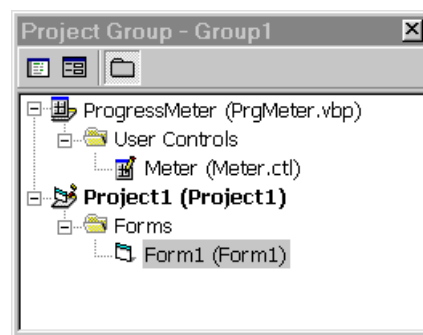

Figure 4. Once you add a second project, the new project becomes the startup project.
1. **Add the new project:** From the File menu, choose the **Add Project** menu item, and choose the **Standard EXE** project type. The form that's part of the new project (Form1) will become your test form. You should now be able to see both projects in the Project window, as shown in Figure 4.